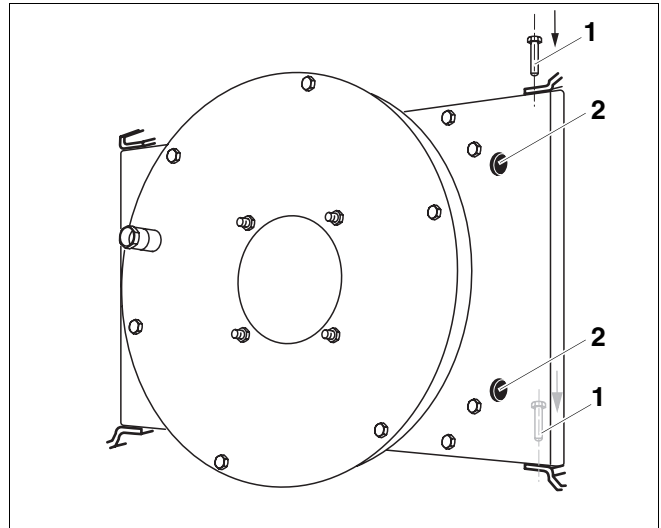

Fig. 21 Burner door
The recesses (Fig. 21, **Item. 2**) in the boiler door (2 left and 2 right) have been provided for lifting with a crane or hoist, for example for the complete removal of the door.
- Push the hinge bolts (Fig. 21, **Item. 1**) out from the bottom through the top.
- Insert both hinge bolts with washers on the opposite side (Fig. 21).